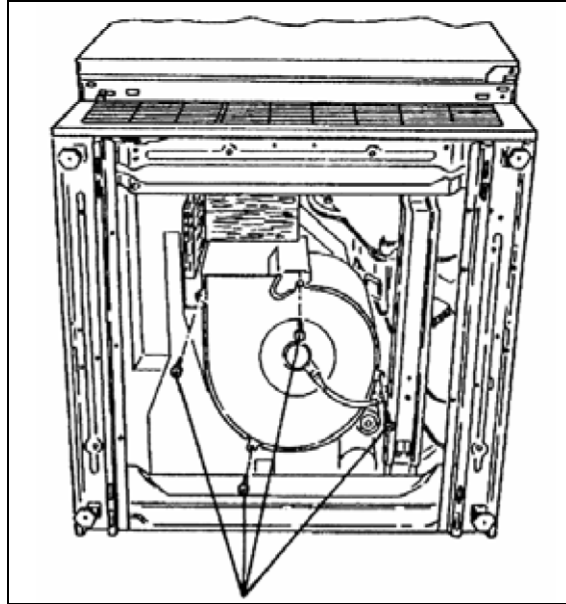

Figure 5-13: Condenser Fan Screws
3. Remove the four screws securing the condenser fan to the condenser assembly (see Figure 5-13).